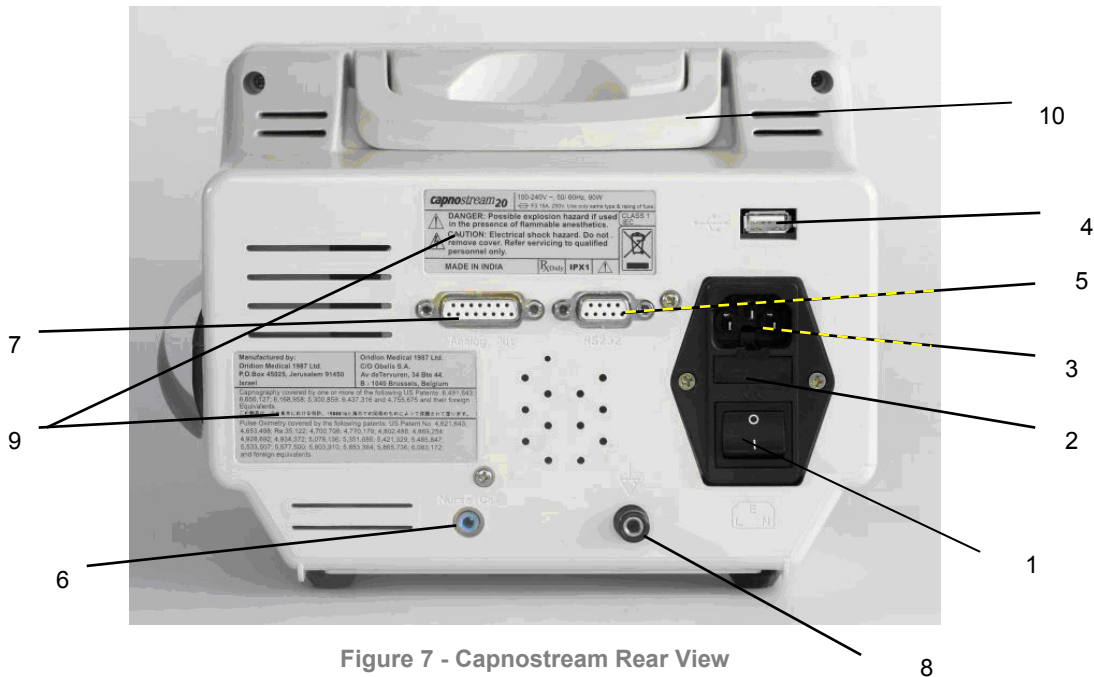

Figure 7 - Capnostream Rear View
1. Plug the electrical cord into the mains plug in the rear of the monitor (see Figure 7 on page 28).